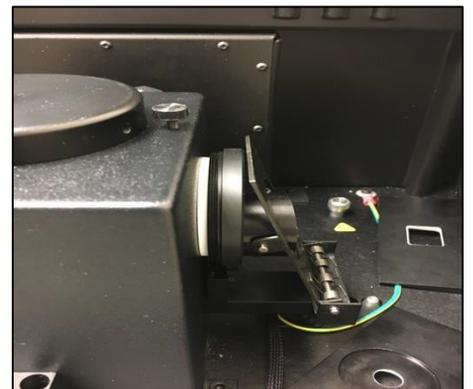

Figure 3: Securing the White Cap against the Angled Sample Mount
2. Mount the Spectrolon coated White Cap behind the Angled Sample Mount and secure it using the spring clamp with the angled wedge pressing against the back of the White Cap as shown in Figure 3.
2. Mount the Spectrolon coated White Cap behind the Integrating Sphere and secure it using the spring clamp as shown in Figure 3.
2. Mount the Spectrolon coated White Cap behind the Integrating Sphere and secure it using the spring clamp with the flat face pressing against the back of the White Cap as shown in Figure 3.
- c. Adjust the cuvette's position using the adjustment knobs shown in Figure 3.